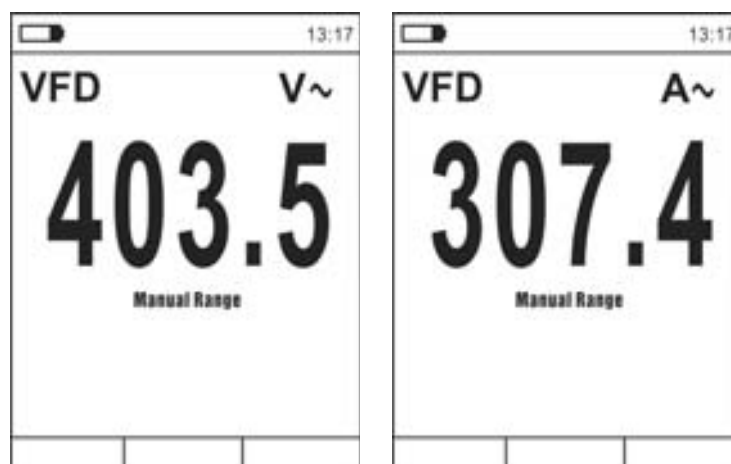

Fig. 11: Description of AC Voltage or Current measurement in VFD mode
3. Long press key **MODE/VFD** selecting “VFD” mode (see Fig. 11)